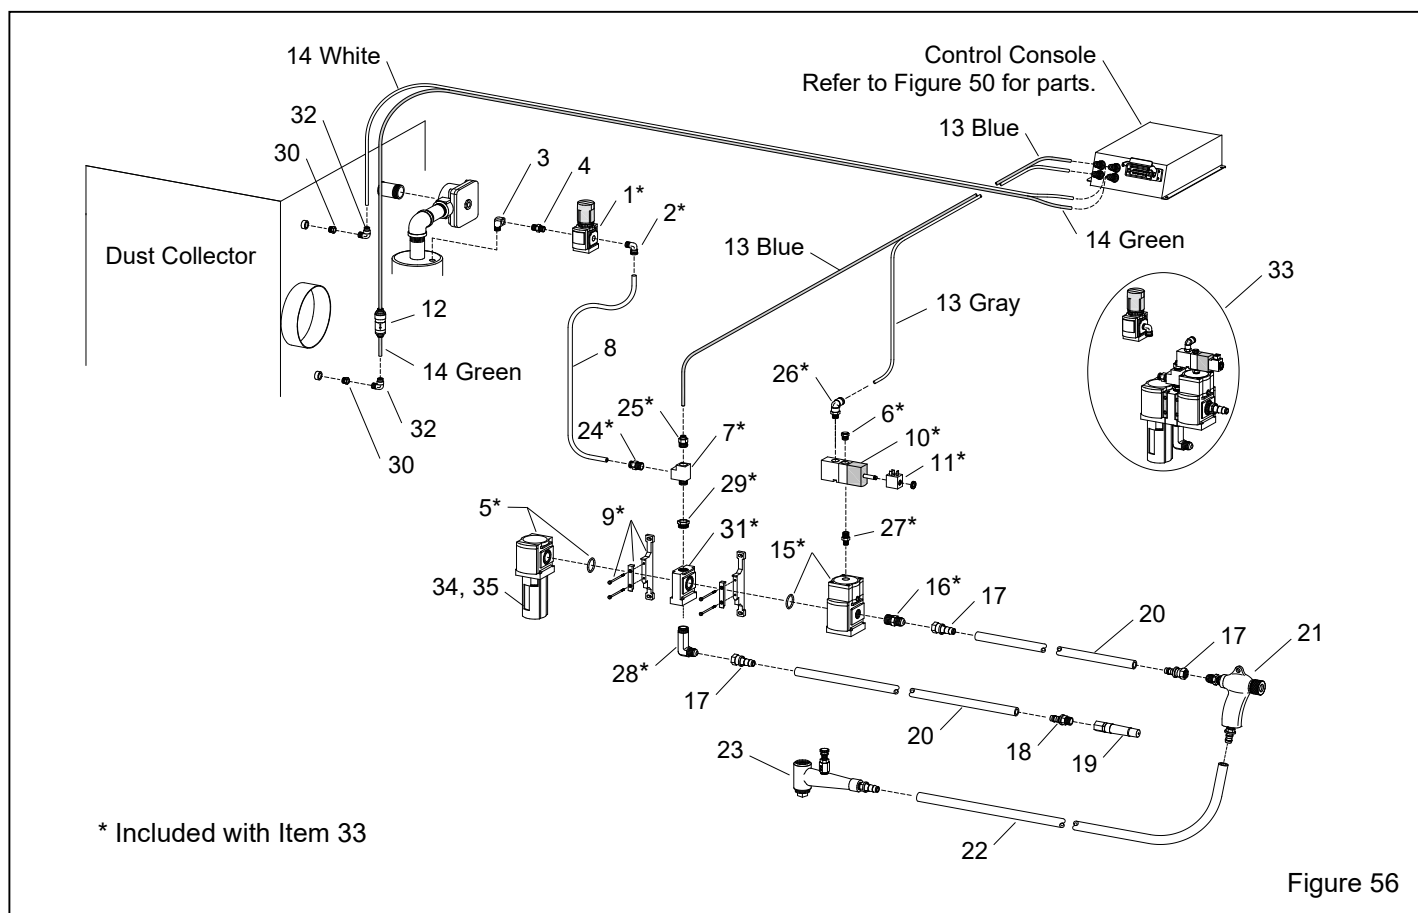

Figure 56
10.9 Pneumatic Controls and Parts – Figure 56